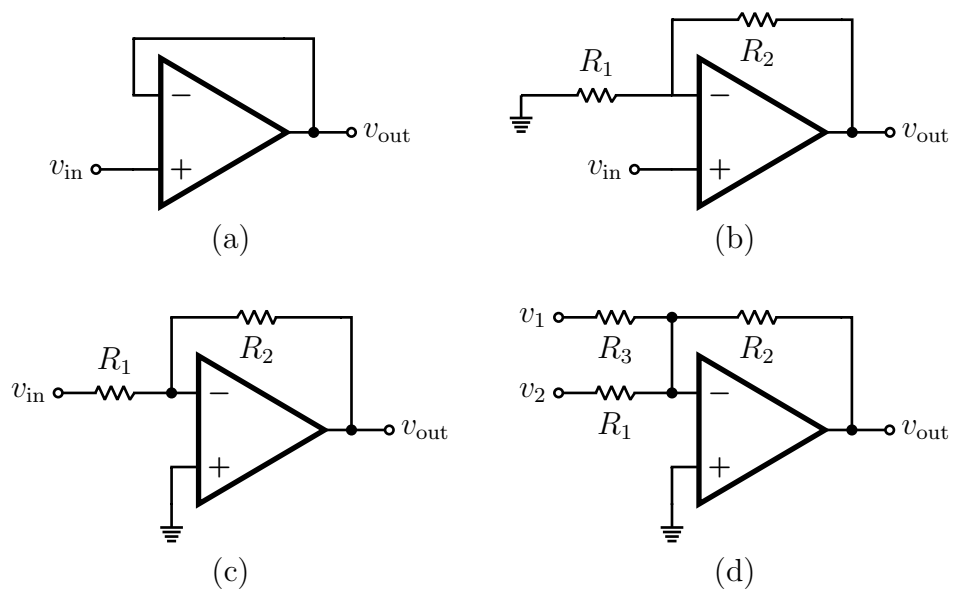

Figure 3: Common Op-Amp circuits: (a) Follower, (b) Non-Inverting Amplifier, (c) Inverting Amplifier, and (d) Adder.
1) Calculate the gain for all four circuits in Fig. 3.
In this section you will build the four common op-amp circuits shown in Fig. 3 using a single LM741 op-amp. In all four circuits use $R_1 = 22 \text{ k}\Omega$, $R_2 = 220 \text{ k}\Omega$, $R_3 = 22 \text{ k}\Omega$ wherever they appear. The power supply connections are not shown, but should be provided using both channels of your bench-top DC supply as $V_+ = +10 \text{ V}$ and $V_- = -10 \text{ V}$.